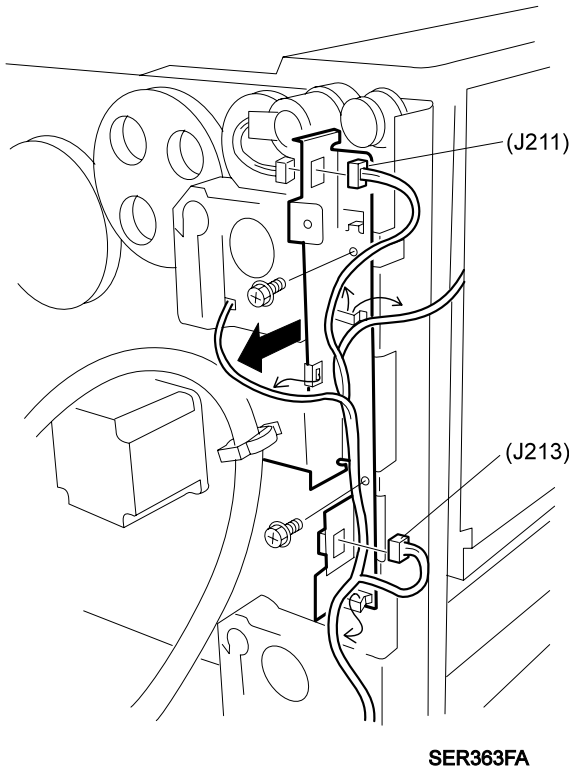

Figure 2
12. Disconnect J211 and J213 from the Bracket (PL 12.4.8) (Figure 2), and free the wire harness from the harness clips.